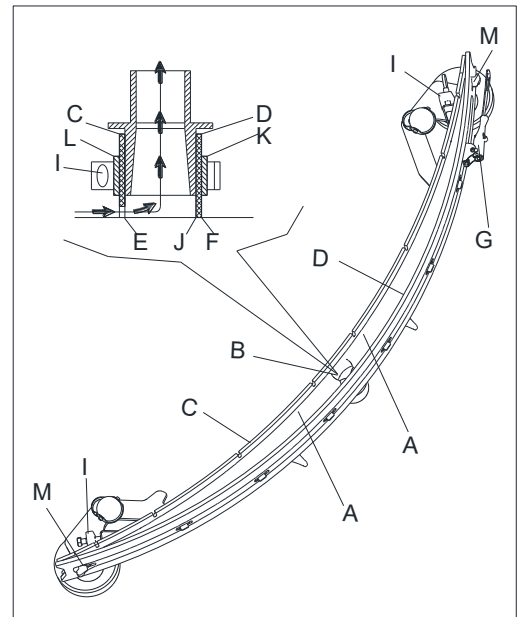
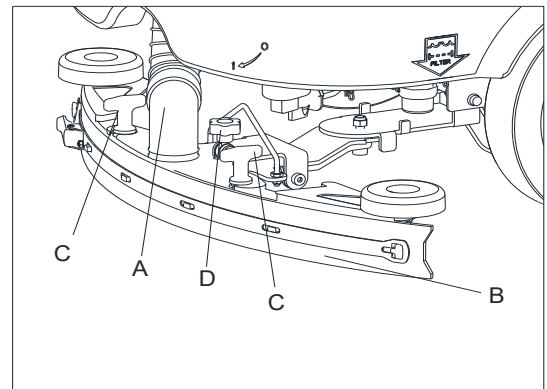

Figure 23
Figure 24
2. Check that the edges (E, Figure 23) of the front blade (C) and the edges (F) of the rear blade (D) lay down on the same level, along with their length; if necessary adjust their height according to the following procedure:
- Remove the tie rod (G), disengage the fasteners (M) and adjust the rear blade (D), then engage the fasteners (M) and install the tie rod (G).
- Loosen the knobs (I) and adjust the front blade (C), then tighten the knobs.
3. Check the front blade (C) and rear blade (D) for wear, cuts and tears; if necessary replace them according to the following procedure. Check that the front corner (J) of the rear blade (D) is not worn; if necessary overturn the blade to replace the worn corner with an integral one. If the other corners are worn too, replace the blade according to the following procedure:
- Remove the tie rod (G), disengage the fastener (M) and remove the retaining strip (K), then replace/overturn the rear blade (D). Assemble the blade in the reverse order of disassembly.
- Unscrew the knobs (I) and remove the retaining strip (L), then replace front blade (C). Assemble the blade in the reserve order of disassembly. After the blade replacement (or overturning), adjust the height as shown in the previous step.
4. Connect the vacuum hose (A, Figure 24) to the squeegee.
5. Install the squeegee (B Figure 24) and screw down the knows (C Figure 24).
6. If necessary, adjust the squeegee balance adjusting knob (D Figure 24).